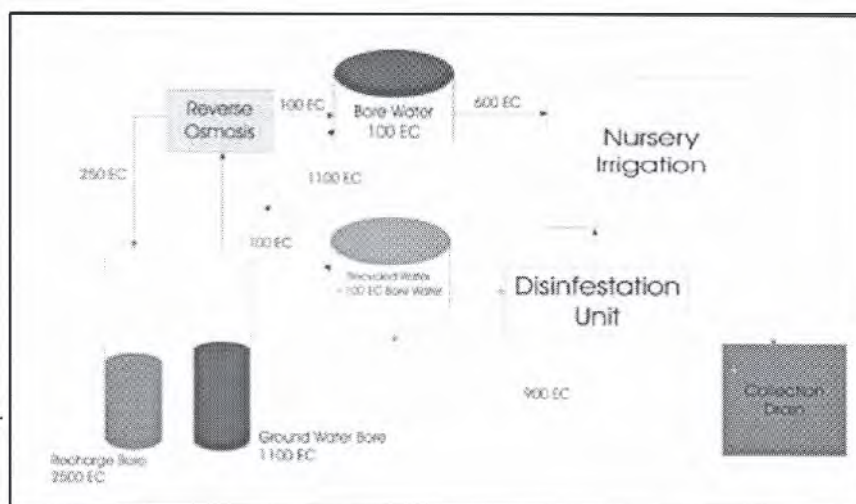

Figure 2. Flow diagram of alternative irrigation system.
Possible In-House Recycling. When the nursery was established, large amounts of clay filling were transported in to allow all the runoff water to be directed to one particular point with a view to recycling. Some areas were raised by up to 1.5 m. Lance and I first looked at recycling the runoff water in 1994 but due to the salinity of the mains supply the runoff water reached unacceptable salinity levels (Dec. 1994 — electrical conductivity (EC) $1340\mu\text{S}\cdot\text{cm}^{-1}$). Reverse osmosis (RO) of the water was not viable because of the suspended fine particles (20-micron filtration allowed 40% LTV penetration). It was decided to look at the feasibility of RO treatment of bore water (EC $1100\mu\text{S}\cdot\text{cm}^{-1}$) and use the $100\mu\text{S}\cdot\text{cm}^{-1}$ portion produced to dilute the runoff water (the uncontaminated remaining bore water to be placed in a more saline aquifer). The usable water would then possibly be disinfected with chlorine dioxide (Fig. 2).